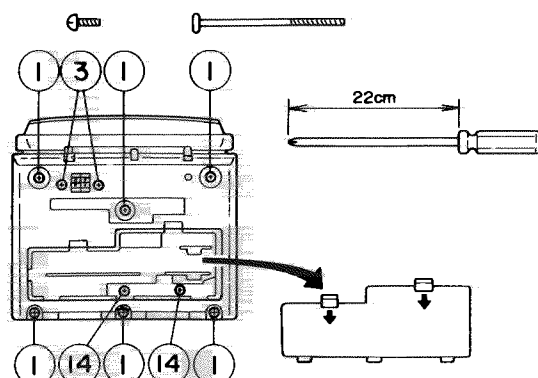
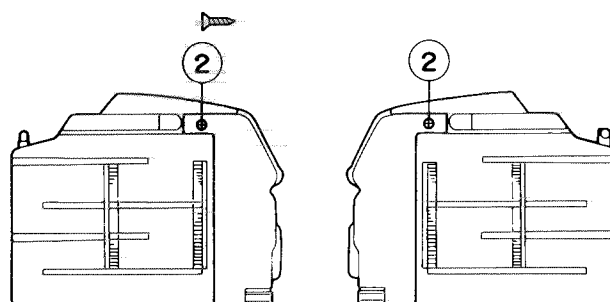
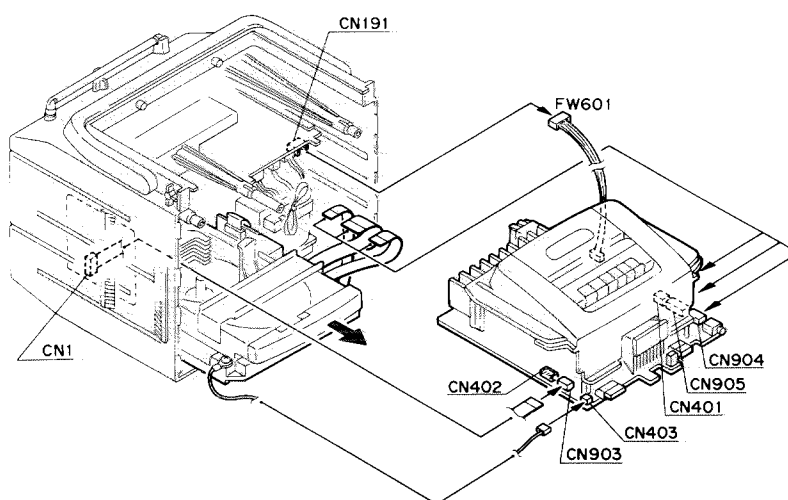

Fig. 2-1
Fig. 2-2
Fig. 2-3
◆ Front cabinet (Fig. 2-1~Fig. 2-2)
◆ CD player unit (Fig. 2-3)
◆ Cassette mechanism and main amplifier board assembly unit (Fig. 2-1, Fig. 2-3)
1. Remove the two screws ③ securing the speaker terminal from the rear of the rear cabinet. (See Fig. 2-1.)